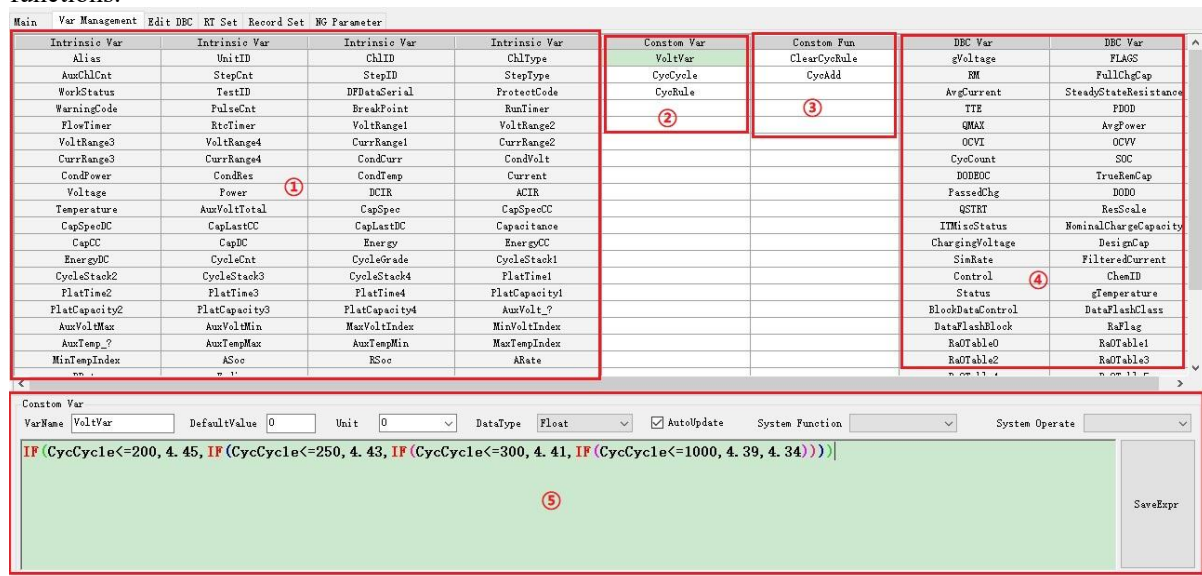
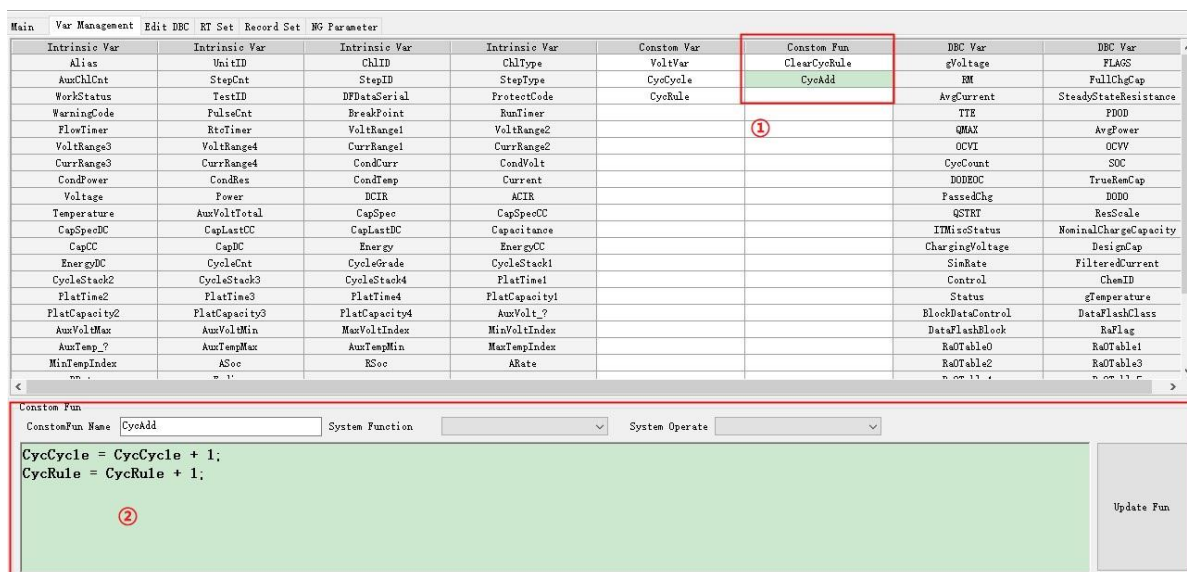

Figure 8-8 The Variable Management
Figure 8-9 Self-defining function
- ① The built-in variable area is the system's default setting and cannot be modified.
- ② Self-defining variable area, self-defining variables, independent storage space, and it can be modified.
- ③ Self-defining function area, self-defining function, no storage space, can be called to execute the corresponding function body.
- ④ DBC variable area, user-loaded DBC variables.
- ⑤ In the variable editing area, Figure 8-8 is the expression of self-defining variable VoltVar. Check automatic solution (active real-time update calculation), if not check, it will calculate by passive invocation. Figure 8-9 is a self-defining function, whose function body is an assignment expression.